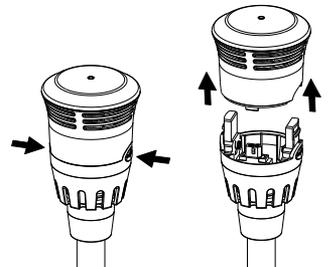

Fig. 7
2. Remove top of fixture by squeezing two buttons and set aside for use later. (Fig. 7)
- 6. Replace fixture head assemblies on all fixtures removed in Fig. 7.